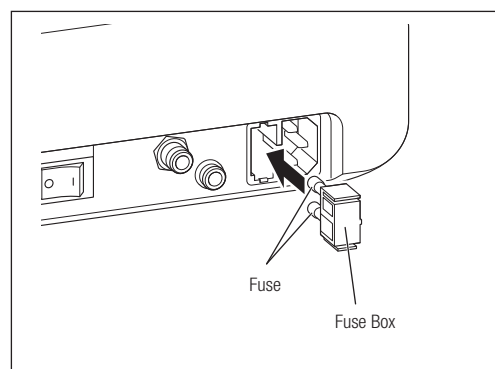

Fig. 59
- 3) Remove the Fuse Holder located at the back of the Control Unit while keeping the nails at both ends pushed inward (Fig. 59).